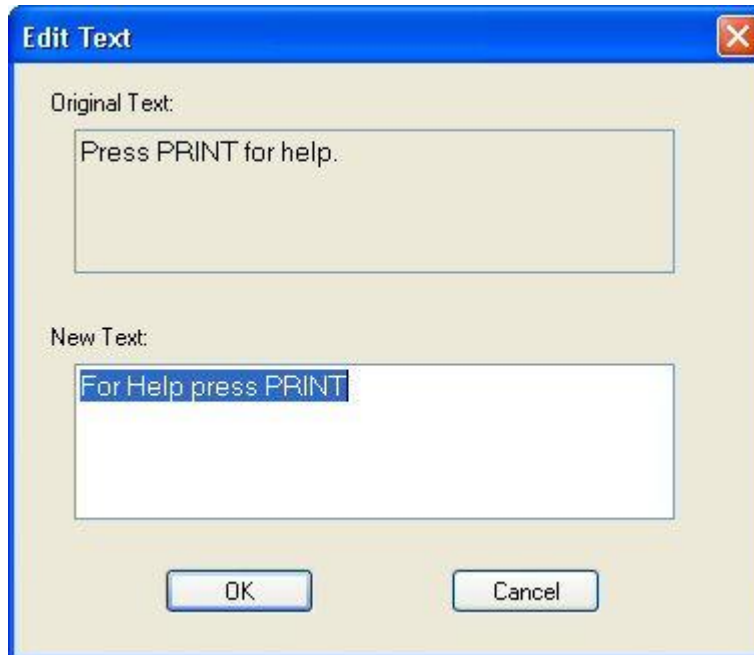

Figure 24. Editing Text
1. Double-click on the literal to be edited. A dialog box, similar to that shown in Figure 24, will appear on the screen.